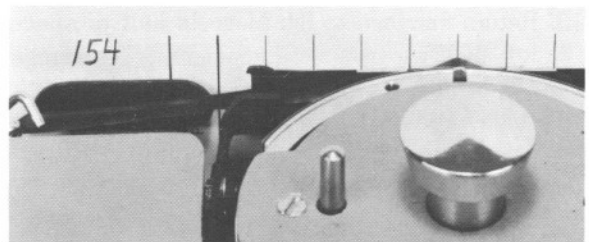

Figure 73
10. Free roll paper and move carriage positioning left alignment guide under blue pencil mark for rule at 154. Hold paper against guide rolling feed rolls (paper) until approximating same position as noted for test rule and lock feed rolls (Figure 73).